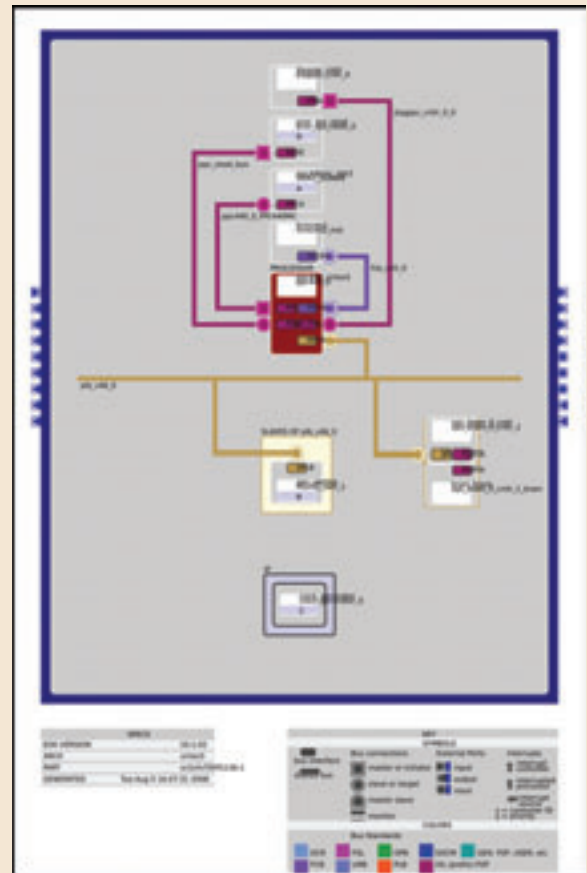

Figure 1 – EDK processor system block diagram
By adding a UDI, we have extended the PowerPC processor’s instruction set to perform complex-number multiplications, a handy optimization for many multimedia decoding systems. The EDK diagram (see sidebar, Figure 1) shows the overall design, including how we connected the complex-number multiplier FCM to the PowerPC processor via the APU, and how software can make use of it.
*Figure 1 – As the pucks move down the screen they expand, giving the graphic impression of coming toward you. I found scan line 198 was about the right place to look for pucks; notice the green puck passing through the scan. By having five instances of the puck locator running in the FPGA, the computer effortlessly found and stored the presence or absence of a puck. Its “highlight” signal generated the highlighted line.*
In general, there are two areas of the screen (see Figure 1). Down the center is the guitar neck, starting small at the top of the screen and getting progressively larger at the bottom, presented in just the same way as a vanishing-point drawing exercise you might have done in elementary school. On the left and right, graphics add excitement to the game, but they are extraneous and can be disregarded. Frets start at the top of the neck and travel down the screen, getting longer horizontally as they make their trek.